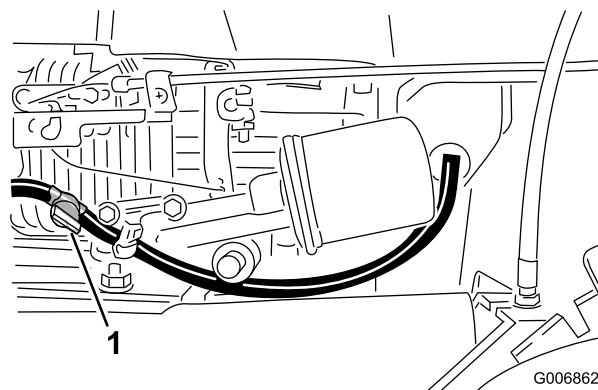

Figure 11
2. Open the fuel valve (Figure 11)